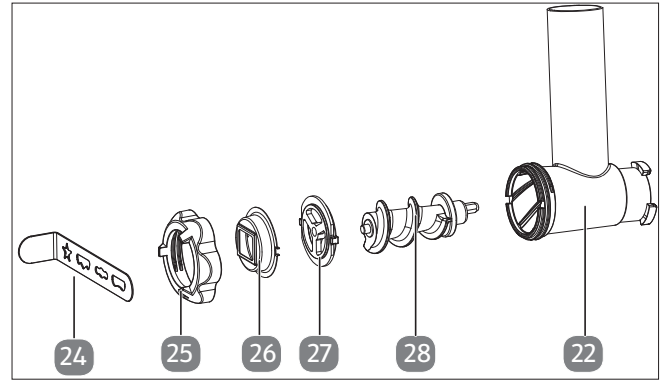

Fig. 21 – Biscuit accessories
1. To make biscuits from biscuit dough, mount the holder and biscuit press attachment as well as the worm gear in the order as shown (see Fig. 21).